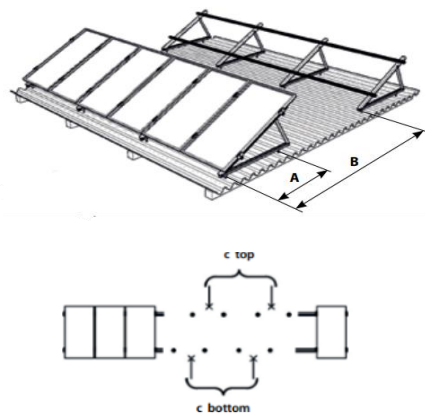

Fig 4.1.2A: Screw fixing and shading distances
- I. The A-Frame positioning depends on the installation plan. The variables **A**, **B** and **C** as per Fig 4.1.2A need to be determined at the site before securing the A-Frames to the roof purlins.
- II. **A** can be either determined by the roofing sheet ribs/crests spacing when rails run perpendicular to purlins or via the purlin spacing when rails are run parallel to purlins, as shown in Fig 4.1.2A.